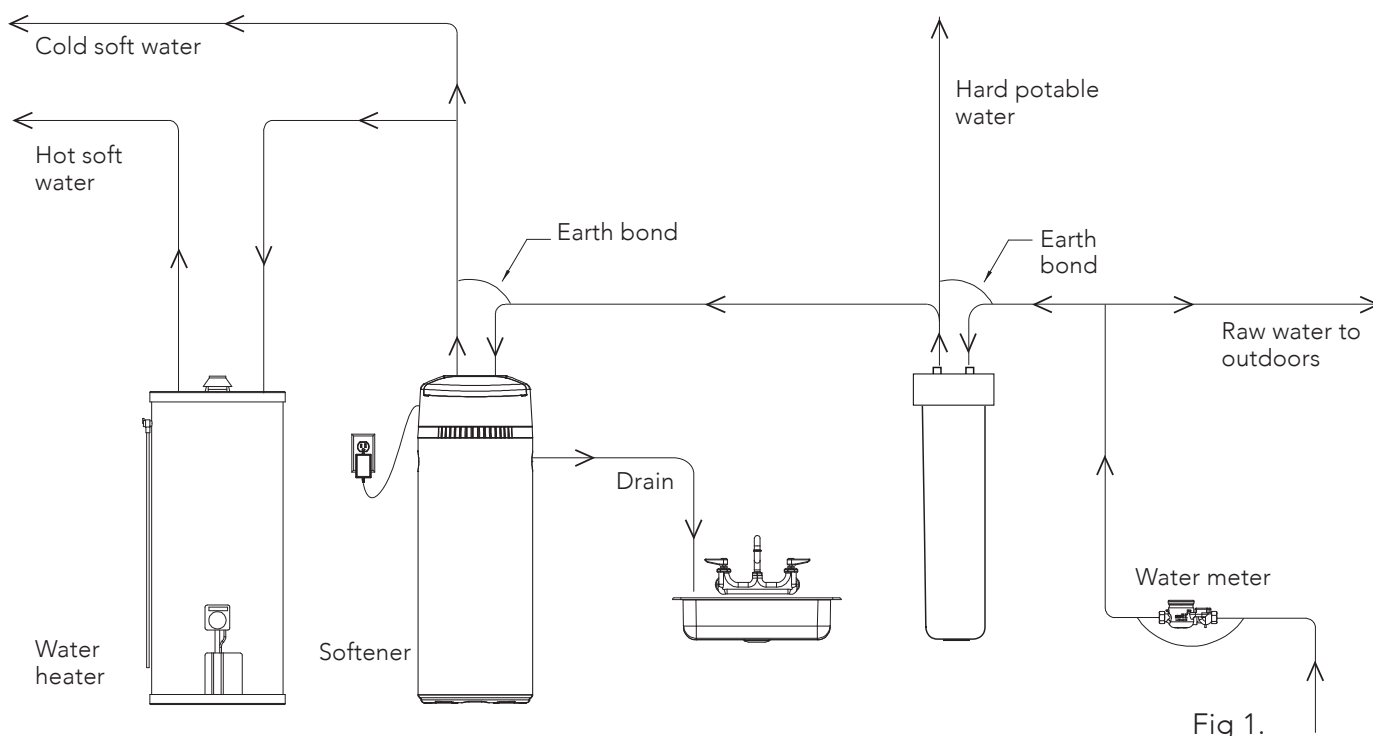

Fig 1.
3. Locate in line with pre filtration equipment (See Fig.1).
7. Determine if additional plumbing is required if your water source is a community water supply, a public water supply or you wish to bypass water used for a geothermal heat pump, lawn sprinkling, out-buildings or other high demand applications, refer to Fig.1.